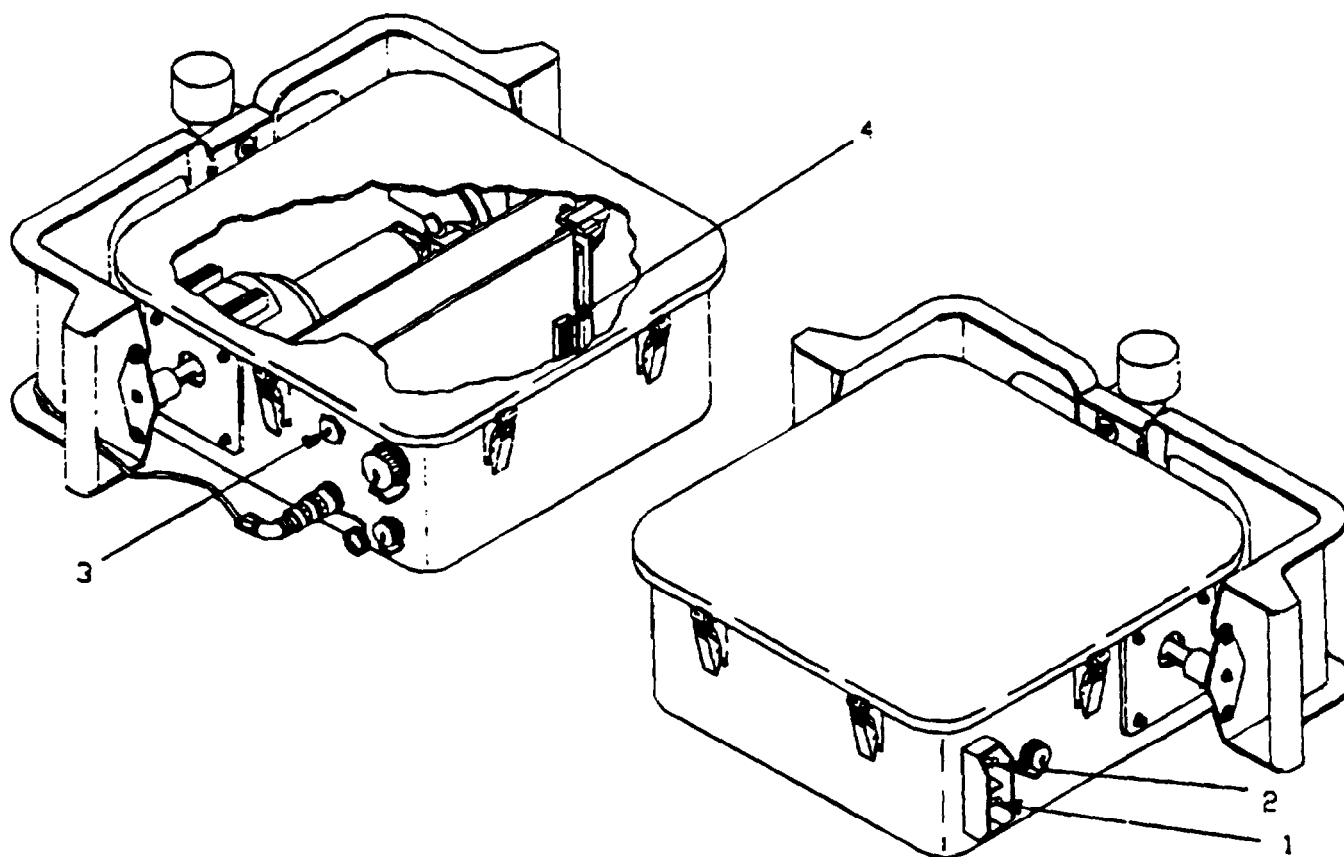

Figure 2-2. Controls and Indicators on ITM.
b. **Controls and Indicators on the ITM.** Controls and indicators on the ITM are described in table 2-2 and illustrated in figure 2-2. Match the keys in table 2-2 with the callouts on figure 2-2 to determine the location of the controls or indicators.